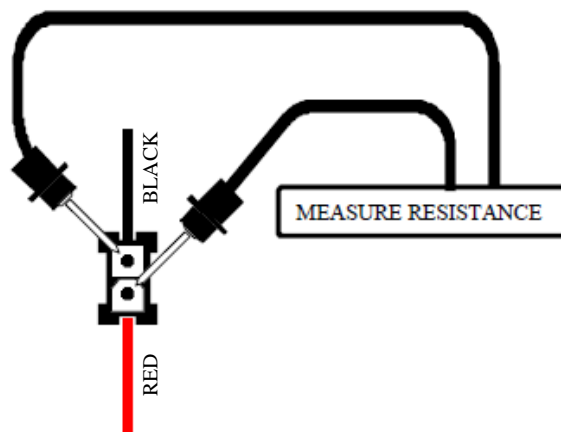

Figure 20. Connector J3
9. Make sure that the pins on J3 are seated properly. Measure resistance across (J3) pin 1 and pin 2 on the front intermediate harness (8) **with the park brake engaged. See figure 20.**